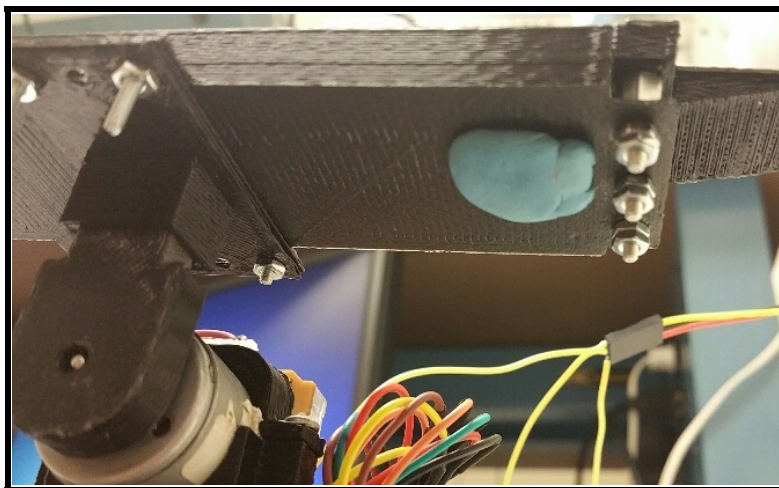

Figure 2.20: Adding Sticky Tack
26. After adding the IR connection wires and the ping pong ball, the beam's center of mass point may be off. If this happens, you can add sticky tack to the bottom of the beam to adjust the beam's weight on either end, as in Figure 2.20.